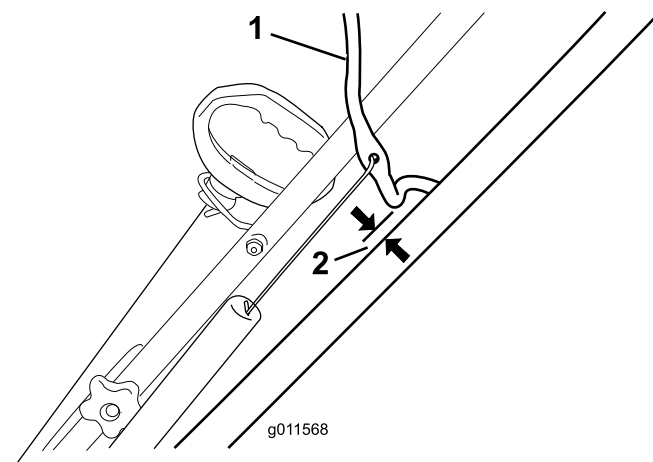

Figure 8
Move the control bar back toward the handle to remove the slack in the control cable (Figure 8).
**Note:** Ensure that a gap of 1/16 to 1/8 inch (2 to 3 mm) exists between the control bar and the handle (Figure 8).